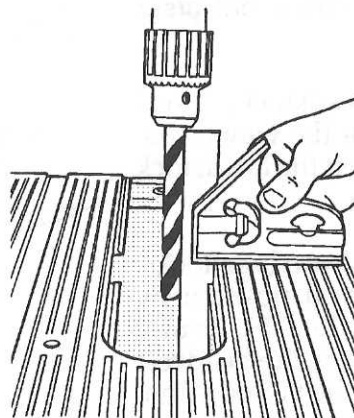
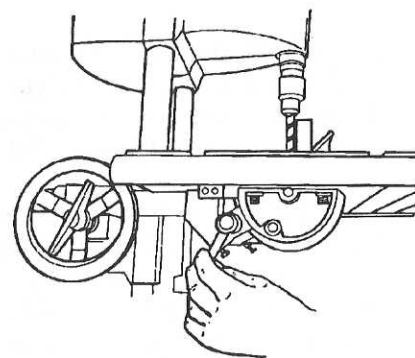

Fig. B-55
Fig. B-56
13. Set the combination square against the bit and table, as shown in Fig. B-55. The square should contact the bit along its entire length. When the table is exactly perpendicular to the drill bit, lock the table, as seen in Fig. B-56.